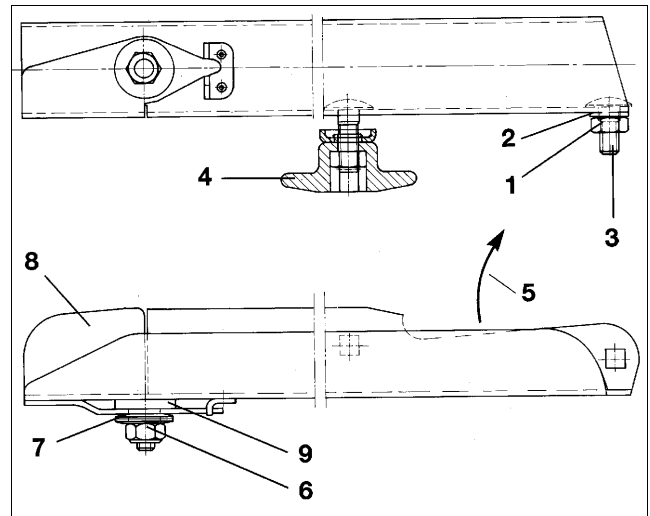

Fig. 48
- Slacken self-locking nut (Fig. 48/1).
- Remove washer (Fig. 48/2) and flat mushroom head bolt (Fig. 48/3).
- Slacken thumb nut (Fig. 48/4) and exchange spreading vanes.
- Tighten the self locking nut (Fig. 48/1) in such a way, that the spreading vane can be swivelled by hand.
**Note the correct fitting of the spreading vanes. The open side of the U-shaped spreading vane shows into sense of rotation (Fig. 48/5).**
- Slacken self locking nut (Fig. 48/6) and remove together with spring washers (Fig. 48/7).
- Exchange swivel blades (Fig. 48/8).
- Tighten self locking nut (Fig. 48/6 ) ) with a torque of **6 - 7 Nm**, so that the swivel blade can still be swivelled upwards by hand, however does not swivel up by itself during operation.
**Mind plastic washer (Fig. 48/9) between spreading vane and swivel blade.**